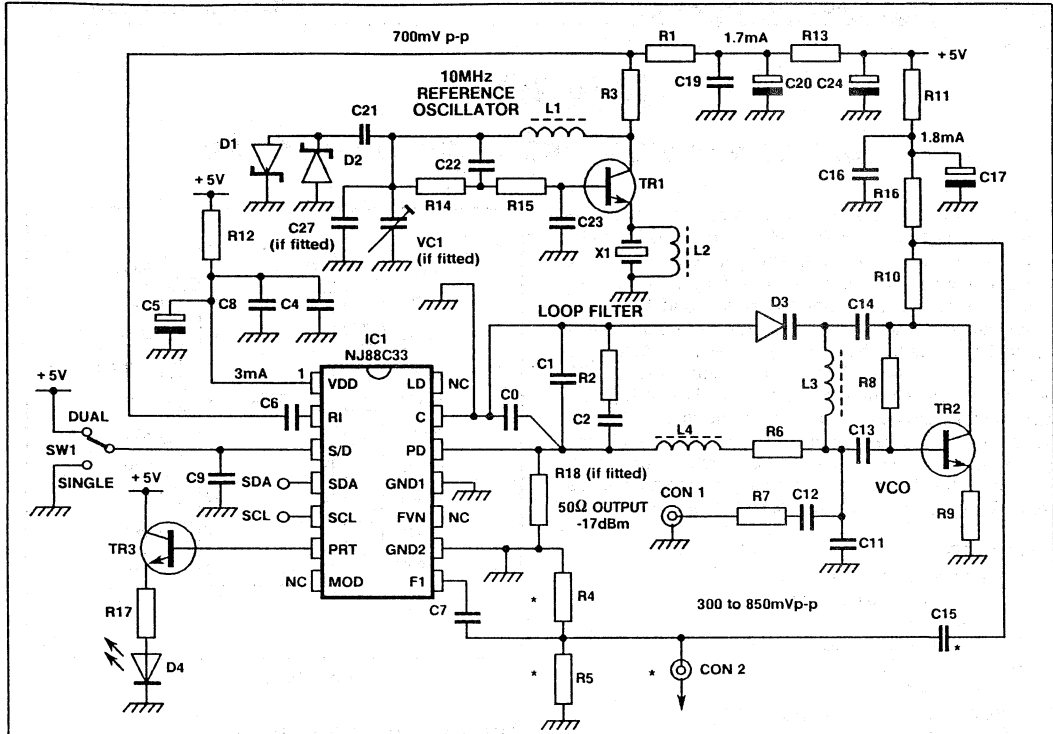

Fig.11 Typical applications circuit
The NJ88C33 evaluation board (Fig. 11) demonstrates the preferred layout technique - providing a reference oscillator, a 60 to 80MHz VCO and a simple loop filter to complete a minimal frequency synthesiser loop. The two units allow analysis of different loop variables as well as the selection of comparison frequencies for fast frequency-hopping loops.
**COMPONENT LIST FOR FIG.11**